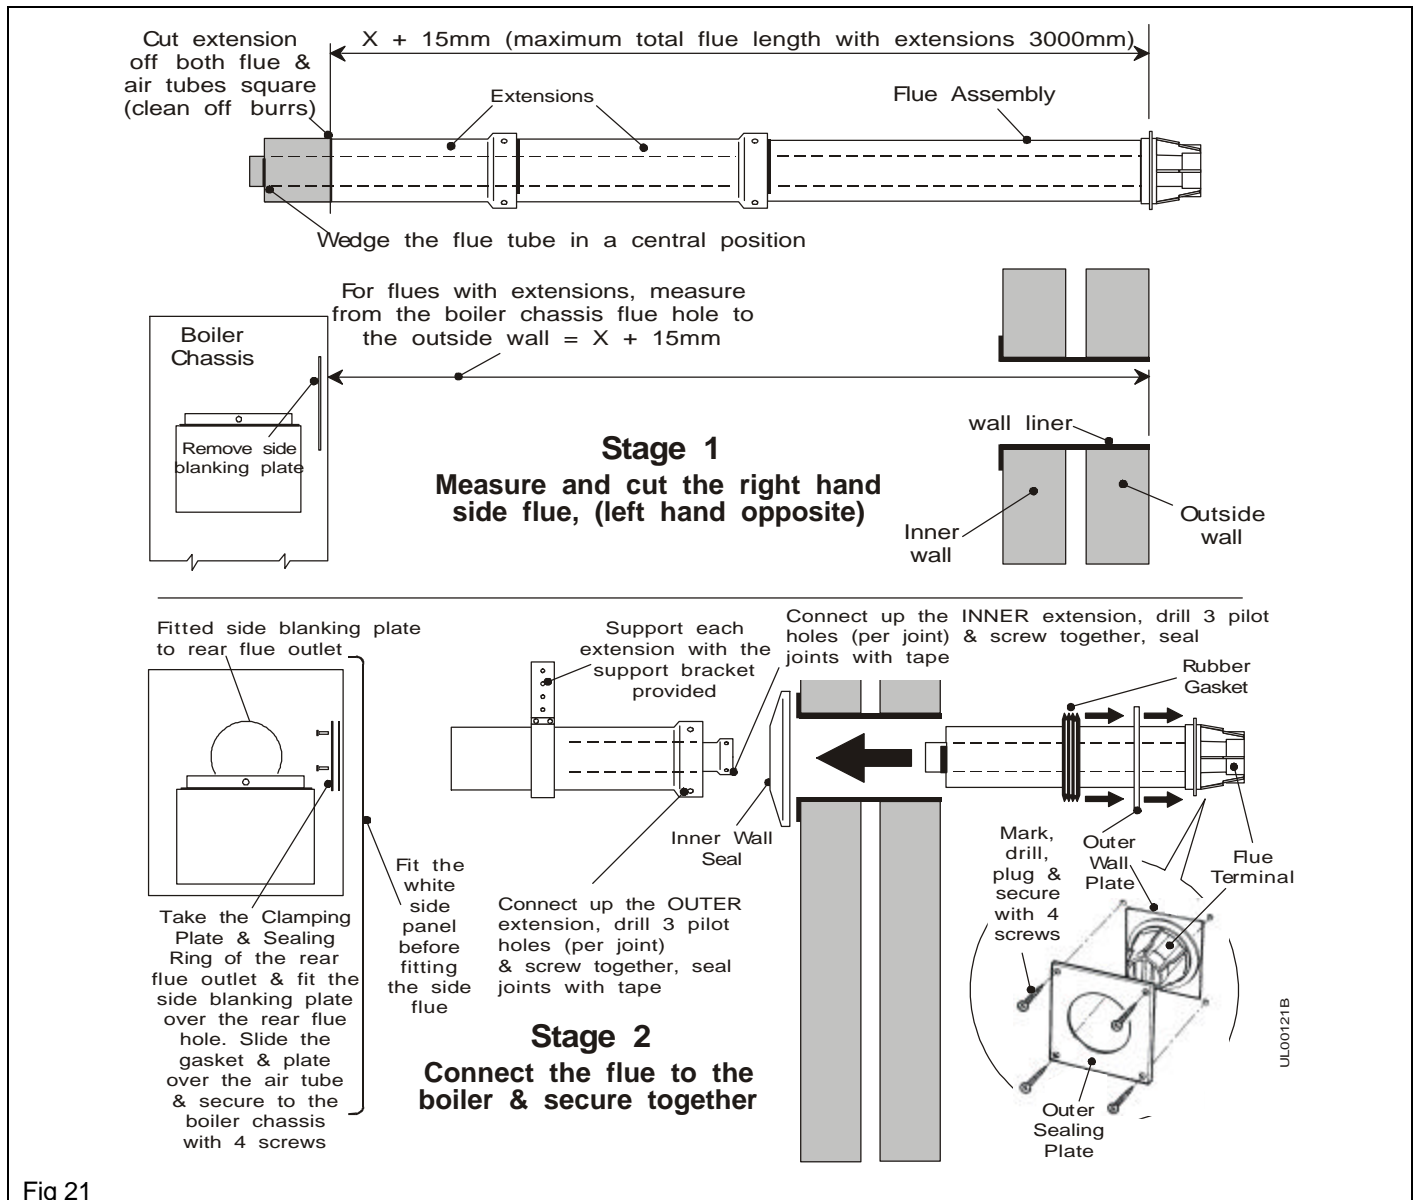

Fig 21
- Mark the final extension (extension that will connect to the boiler) to the required length, measure from the back of the terminal flange. See Fig.21.
- Install the flue assembly in the wall, See Fig.21 & slide the support brackets on the extension & connect up to the flue assembly. Using the pilot holes in the flared end of the extension, drill three 2.8 mm dia. holes into the outer tube of the flue/terminal assembly. Take care not to damage the inner flue tube with the drill.